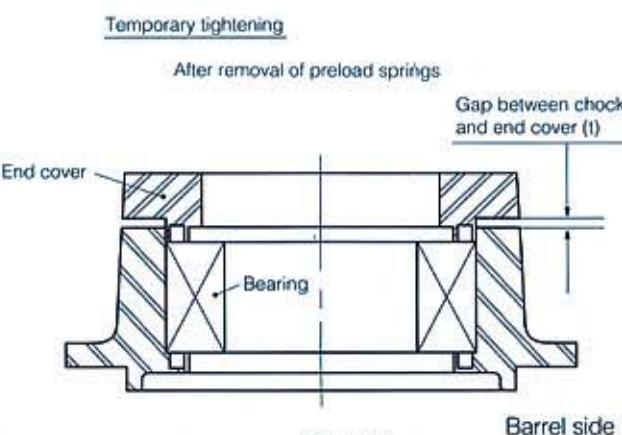

Fig. 3.36 Barrel side
- (1) Follow the steps from (1) to (7) of the procedure described in **Section 3.4.1**, but do not use the preload springs.
- (2) Tighten the end cover bolts temporarily.
- (3) Measure the clearance between the chock and end cover at four equally-divided points around the bolts and determine the average clearance (t). (**Fig. 3.36**)